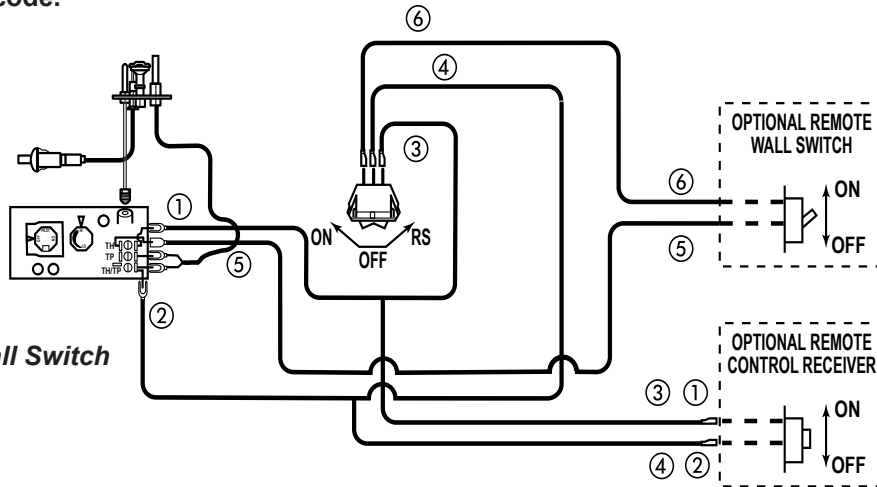

Figure 35 - Wiring Diagram for Wall Switch
A remote wall switch and up to fifteen (15) feet of 18 Ga. wire may be used with this appliance. Attach the wall switch in a junction box at the desired location on the wall. *Figure 35*. Do not extend beyond the wall switch wire length provided.